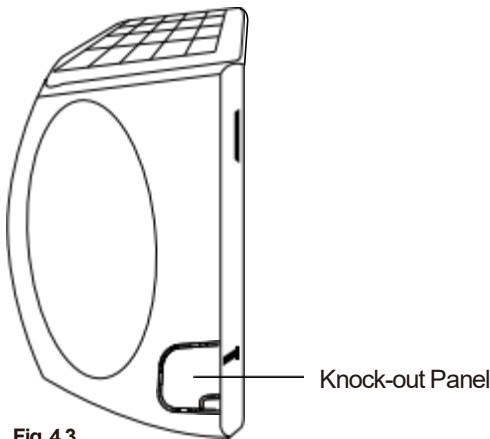

Fig. 4.3
2. If the wall hole is behind the unit, keep the knock-out panel in place. If the wall hole is to the side of the indoor unit, remove the plastic knock-out panel from that side of the unit. (See **Fig. 4.3**). This will create a slot through which your piping can exit the unit. Use needle nose pliers if the plastic panel is too difficult to remove by hand.